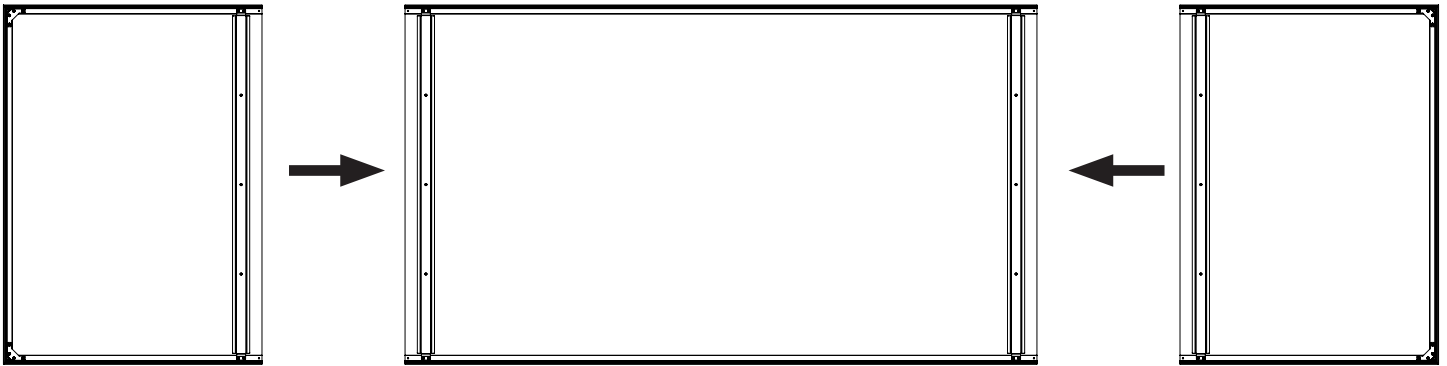
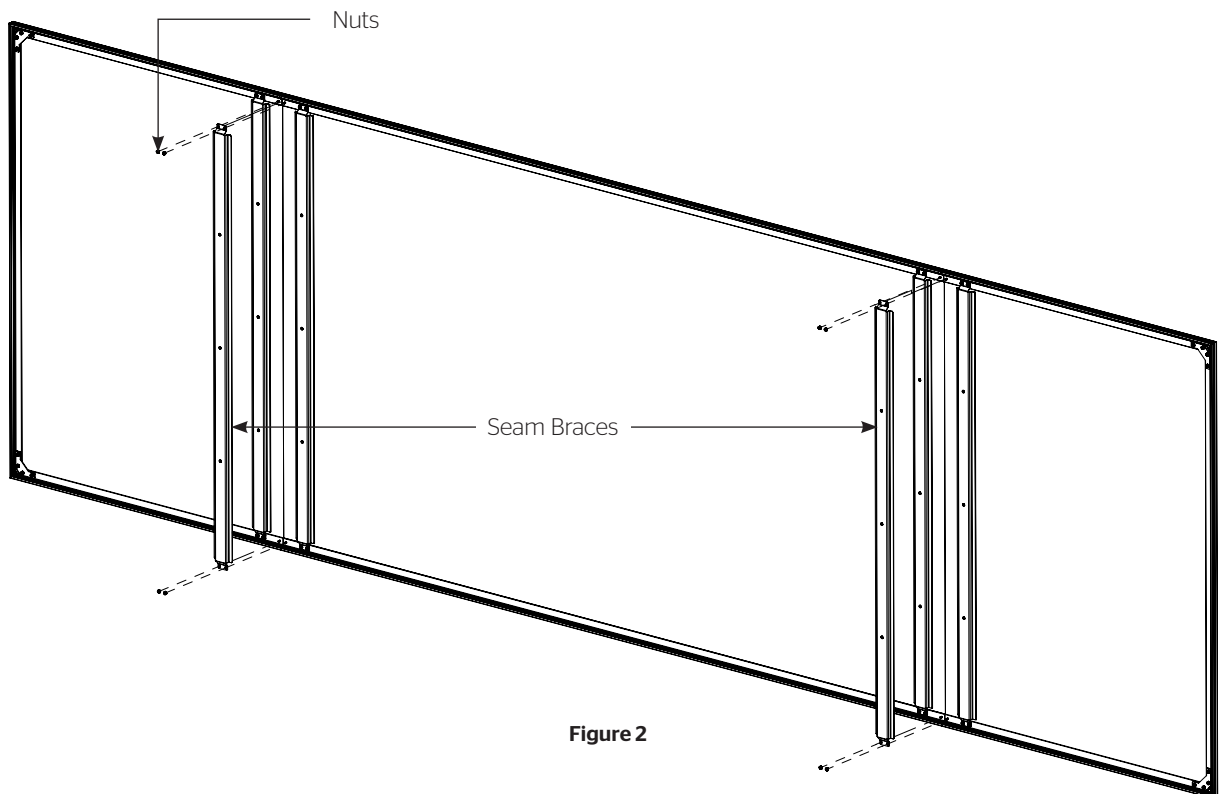

Figure 1
Figure 2
2. Slide all three panels together, aligning the both the top and bottom frames (Figure 1).
3. Find (1) seam brace and remove the release liner from both strips of adhesive tape.
5. Use open wrench or socket driver and (4) nuts to attach seam brace onto the studs on the top and bottom of screen frame at the panel seam. Tighten all four nuts once attached to the frame (Figure 2).